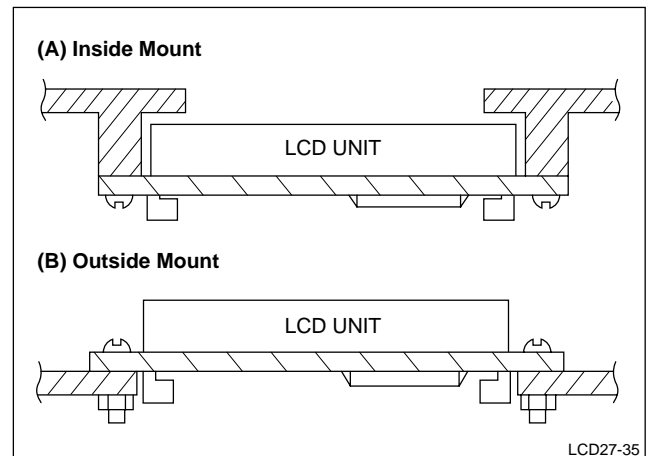

Figure 12. Mounting Diagrams
- a. The LCD unit may be mounted on either the inside or outside of a cabinet, as shown in Figure 12. To determine the optimum mounting angle, refer to the viewing angle range in the device specification for each model.